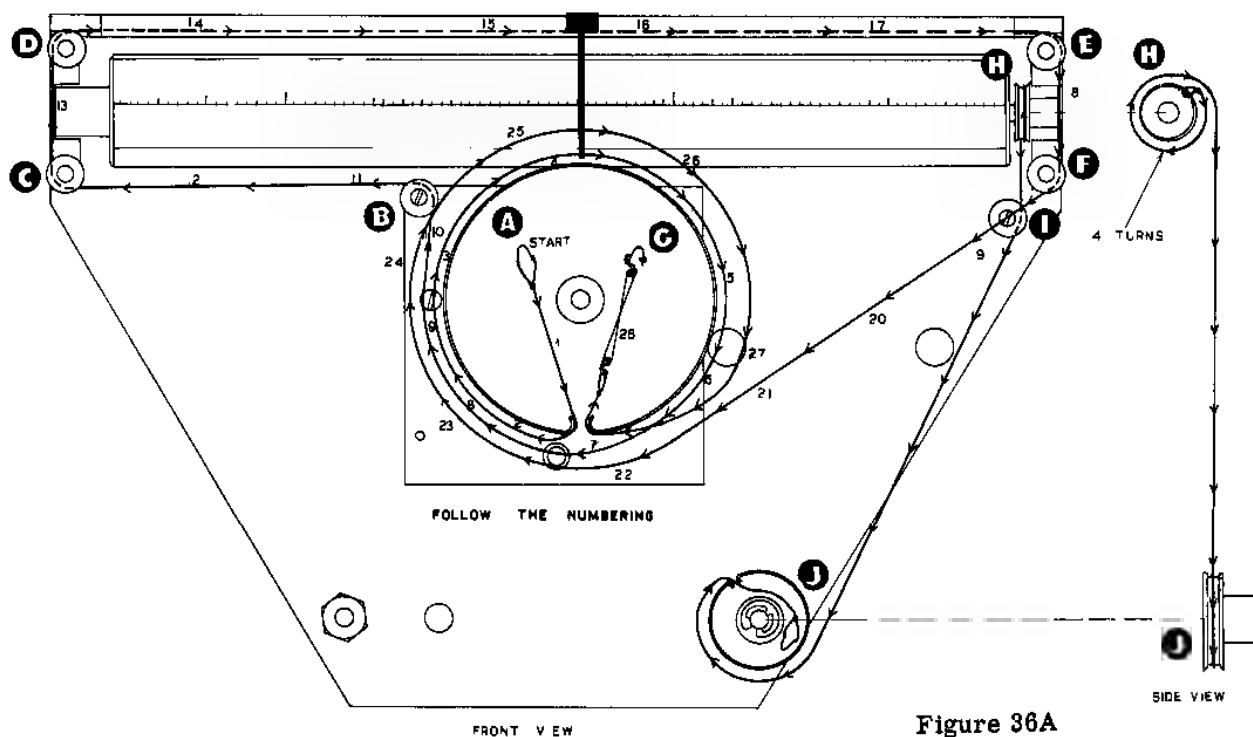
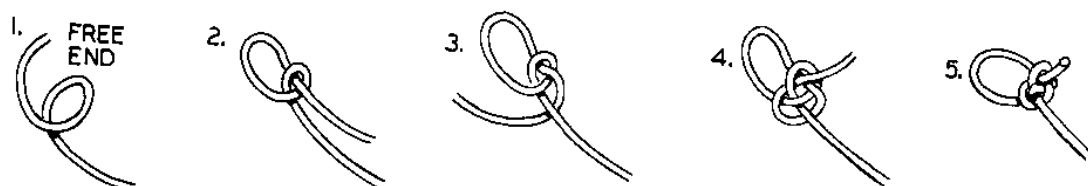
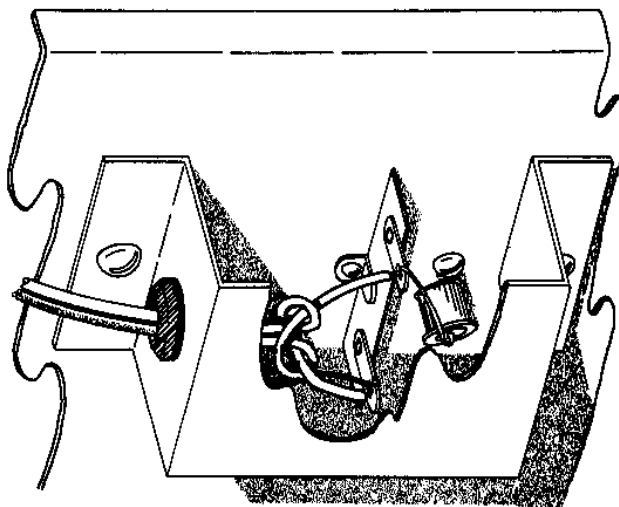

Figure 36A
Figure 36B
Figure 37
- (✓) String the pointer drive dial cord, as follows, referring to Figure 36A: Rotate the tuning shaft full CW. Using the full length of dial cord supplied, make a small secure loop (See Figure 36B) in one end and place over hook 1 on the drive pulley. Now, pass the cord through the opening on the rim of the pulley; make one complete CW turn on the pulley, and pass up and over the small plastic pulley on the front plate. Then route the cord to the left
- (X) Place the loop just formed over the hook on the band switch pulley and route the cord out through the gap in the pulley rim as shown in Figure 36A. Now rotate the pulley, which should still be free on the shaft, in a CW direction until, with the band switch in the 20 M position, the 20 M scale on the dial drum is foremost. Now tighten the pulley set screw temporarily after positioning the pulley on the band switch shaft so it is clear of the links and the cord runs parallel to the dial mechanism back plate. NOTE: If access to the set screw on the pulley is difficult, place the band switch in some other position and set the pulley so the proper scale is foremost.
- (X) Make a final check of the band switch by rotating through its entire travel, noting that the various band dial calibrations appear foremost on the dial drum for the corresponding band switch position.
- () Split one end of the line cord for a distance of 2" and strip and tin 1/4" of each lead. Referring to Figure 37, insert this end through the grommet in the line cord terminal cover, tie an electrician's knot as shown, and connect one lead to one line cord terminal (S2) and the other lead to the second line cord terminal (S2). Depending on the type of soldering iron used, it may or may not be necessary to remove the cover for this connection. In either case, secure the cover mounting screws after the connection has been made, using lockwashers under the nuts.